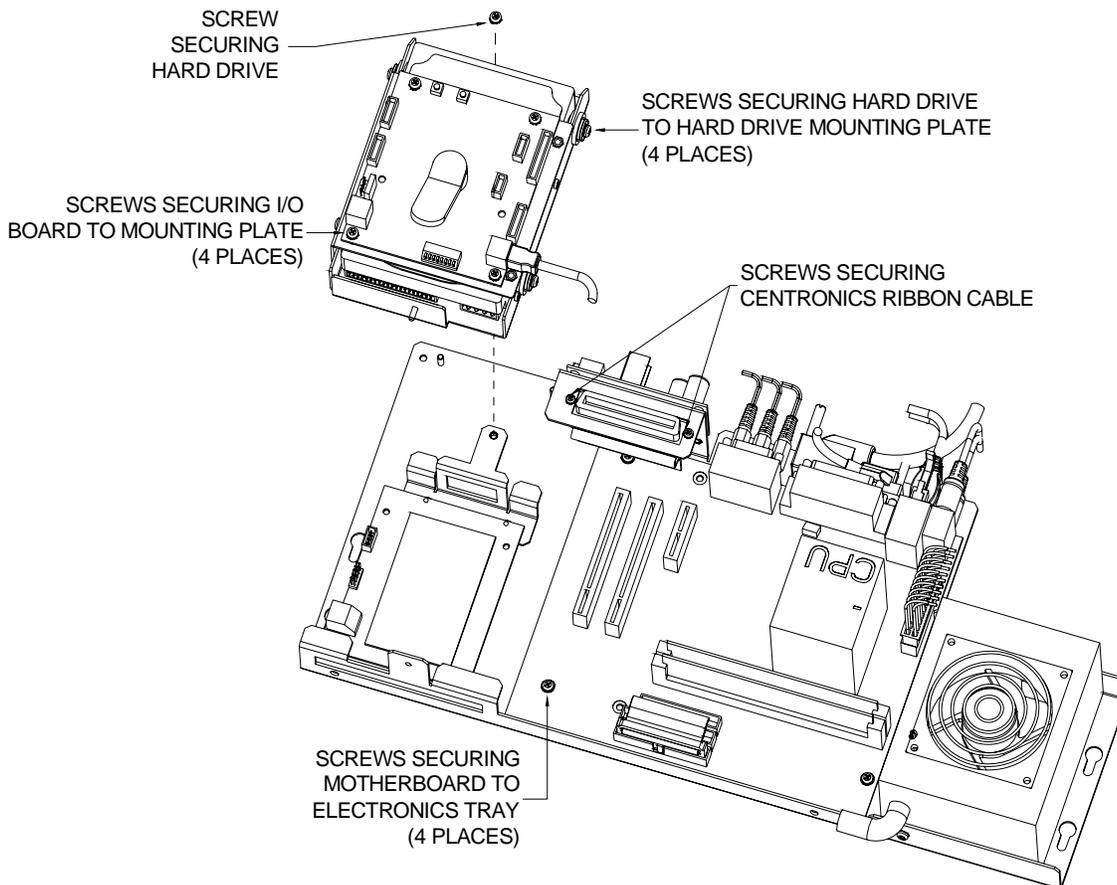
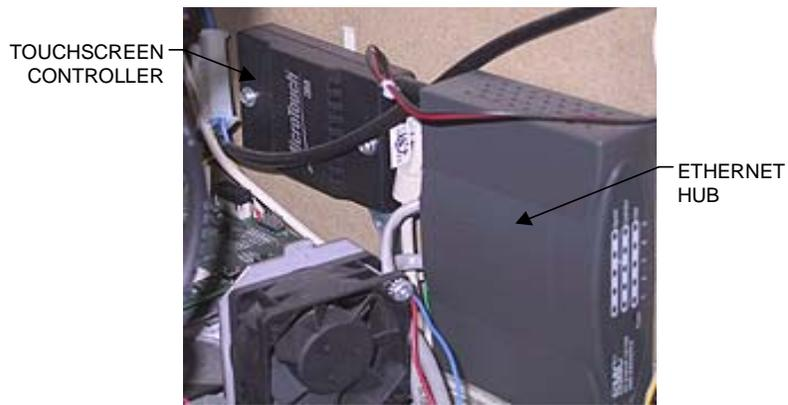

FIGURE 1 - REMOVING HARD DRIVE/MOTHERBOARD
FIGURE 2 - MEGATOUGH COMBO JUKEBOX - INSIDE REAR OF CABINET
4. Using Figure 2, locate the touchscreen controller mounted inside the cabinet on the right side (if you are facing the rear of the game) and remove the two screws fastening the controller to the cabinet. Then disconnect the Molex connector (orange and gray wires) running from the touchscreen controller cable to the main power harness.
3. Remove the nuts fastening the electronics tray to the game. The side wall mounted tray will have 4 nuts (see Figure 1). The bottom mounted tray will have 3 nuts, 2 in the right front corner and 1 on the left side by the power strip (see Figure 2).
5. Remove the 4 screws and shoulder washers fastening the hard drive to the mounting plate on the electronics tray, then slide out the hard drive from under the I/O board until you're able to disconnect the power connector and ribbon cable from the drive. See Figure 2.
1. Place the new hard drive under the I/O board and connect the power connector and ribbon cable to the drive, then fasten the drive to the mounting plate with the 4 screws and shoulder washers (see Figure 2)
2. Replace the electronics tray in the game and fasten it with the same nuts removed in step 3 (see Figure 1 or Figure 2).